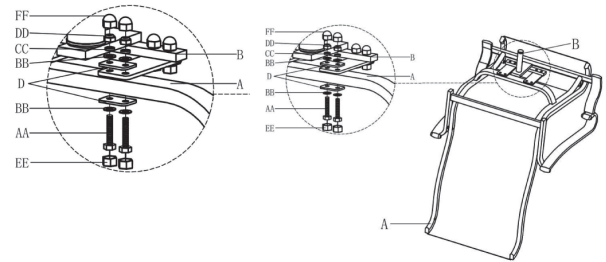

Figure 1
Step 1. Carefully place the chair frame (A) upside down on a non-abrasive surface. Assemble the T rocker (B) to the chair frame (A) with steel panel (D) and bolts (AA) and washers (BB) and M8 Spring gasket (CC) and M8 Nut (DD) by using open wrench (GG), then cover the bolts with bolt covers (EE and FF) as show in Figure 1.